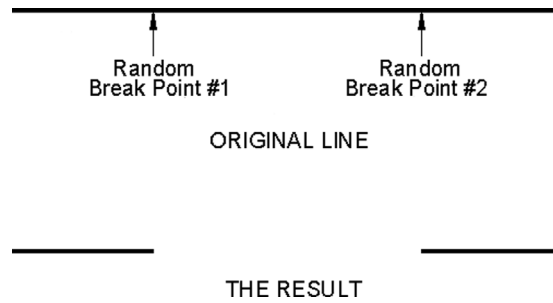

FIGURE 15.10 Break command, Method 1.
Step 3. Pick another nearby point on the line, and a section between these two points is removed (Fig. 15.10). Note that, as of AutoCAD 2015, you can now preview the result of the break command as you execute it, similar to many other modify commands.